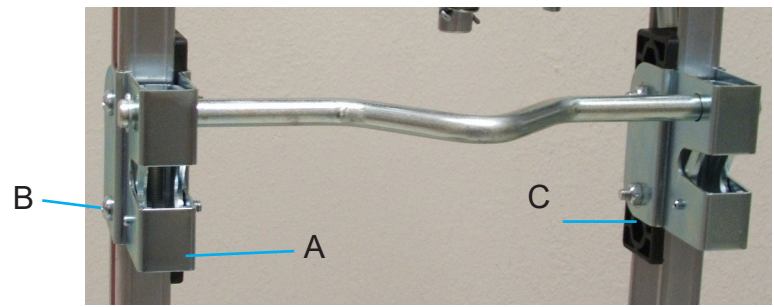

Figure 2
2. Remove the four screws and lock nuts using the screwdriver and wrench (see Figure 2). Retain all fasteners.